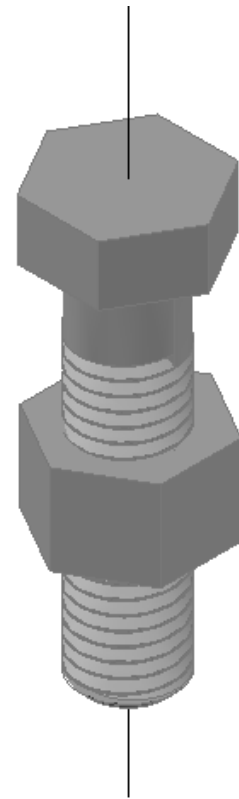

Figure Step 21
Step 21 Using the centerlines to snap to, copy the bolt exactly in the center of the nut. The vertical location is not important as long as the nut is totally in the threaded area. (Figure Step 21)